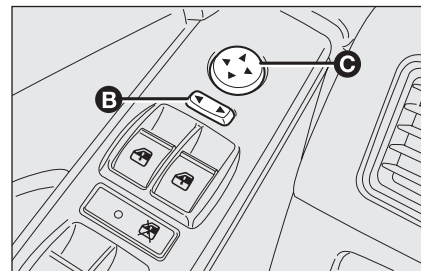

fig. 54
- ☐ use switch **B**-fig. 54 to select the mirror required (left or right);